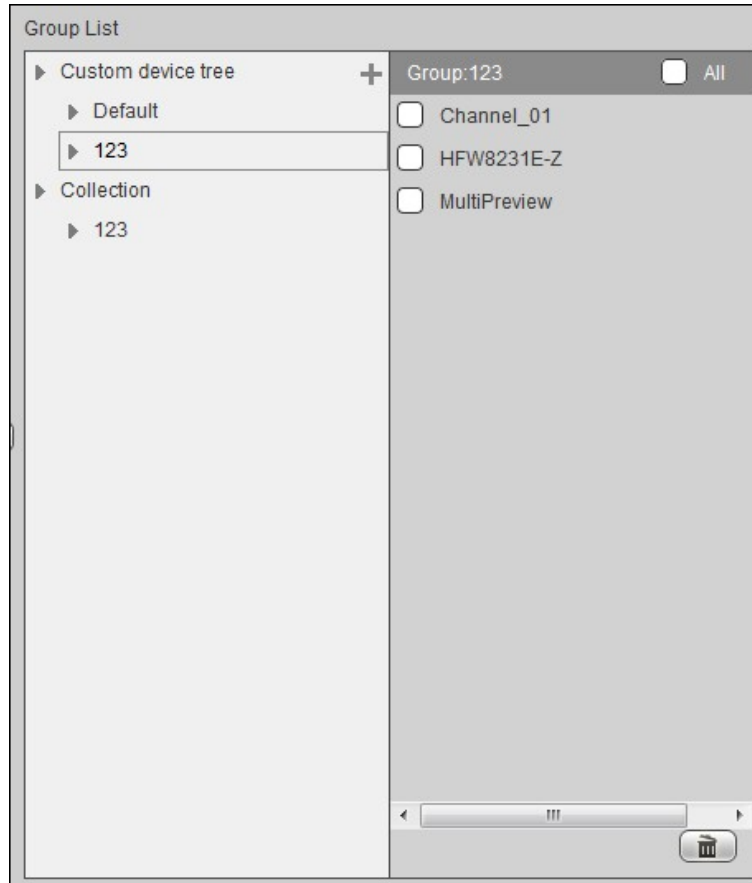

Figure 4-92
Step 5 Click  to complete signal group, as shown in Figure 4-92.